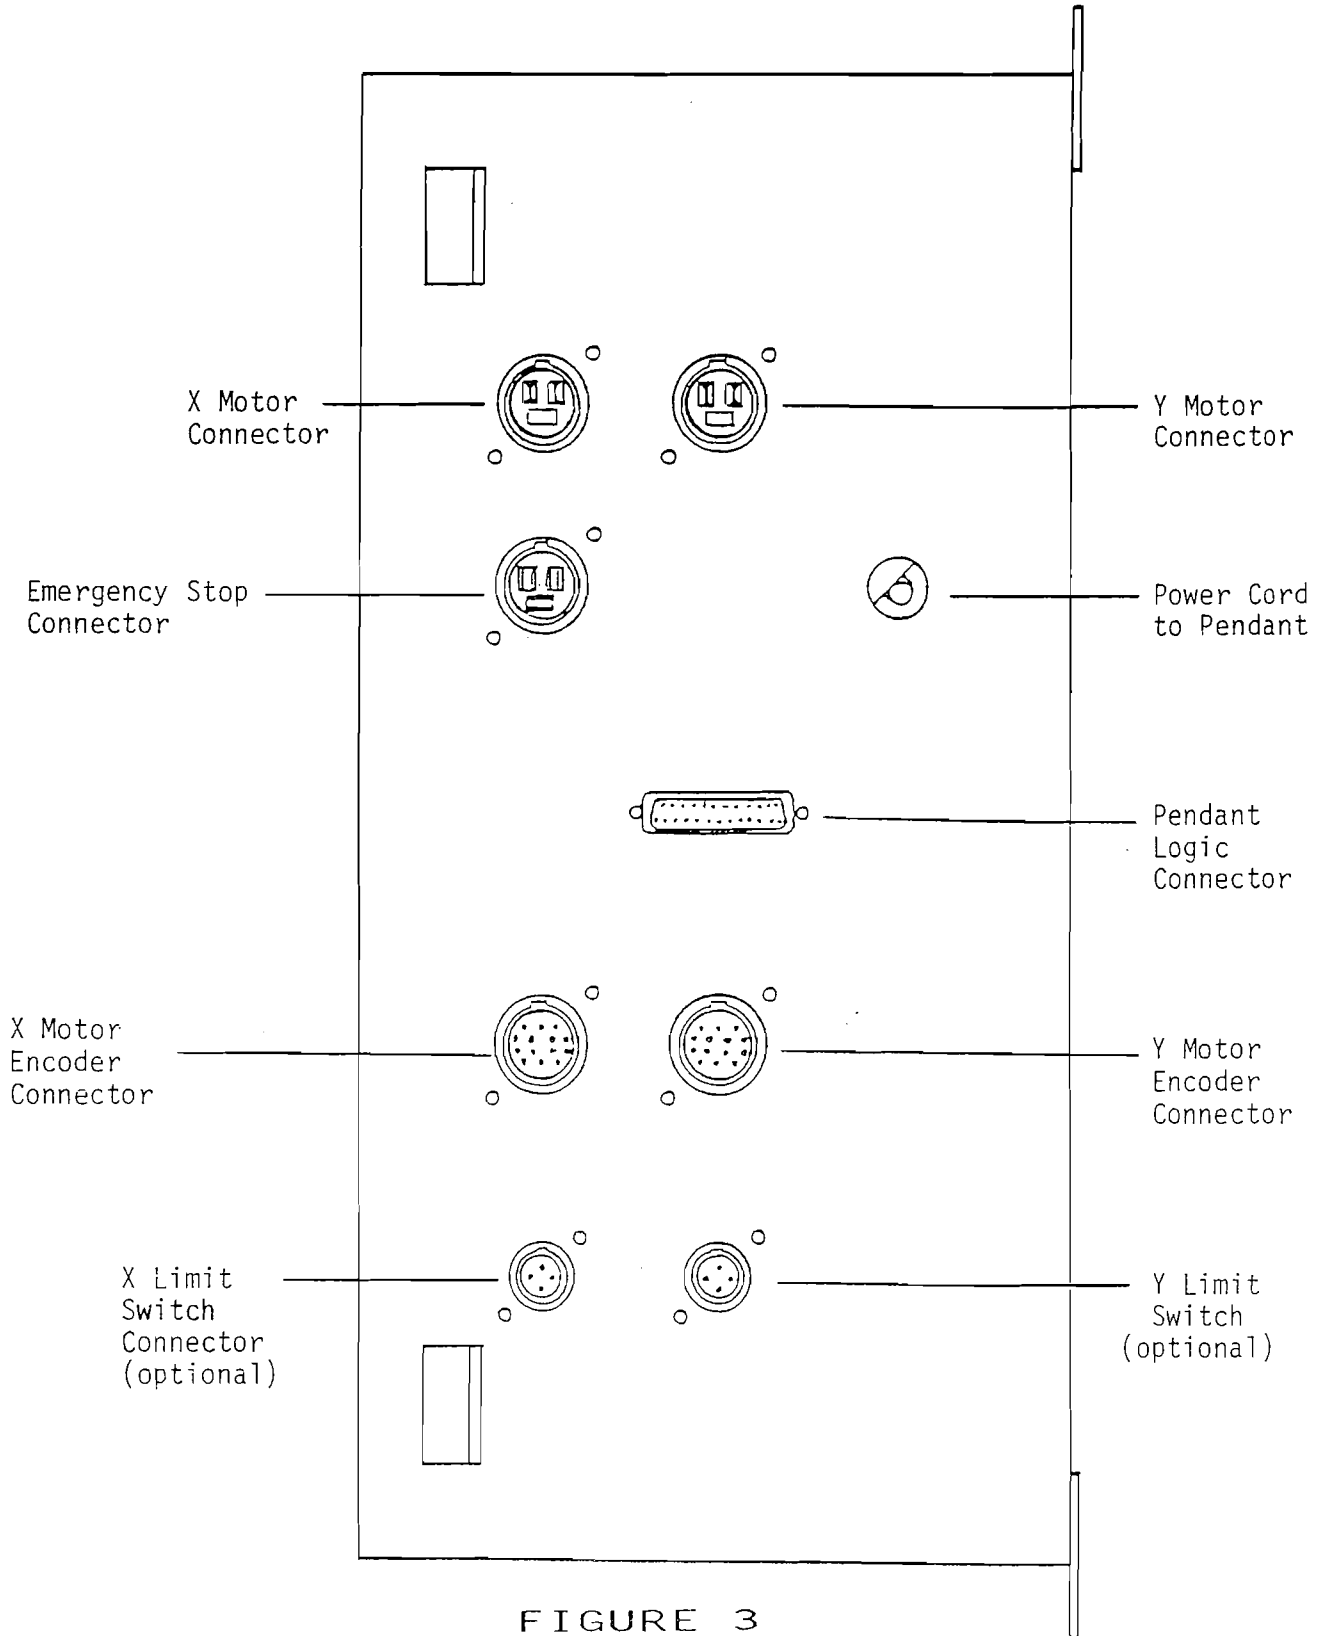

FIGURE 3
2.4 Power Control Cabinet (Figure 3)
The power control cabinet contains the unique SWI digital servo amplifiers which drive the DC servo motors. See Figure 3 for a description of the connectors located on the side.